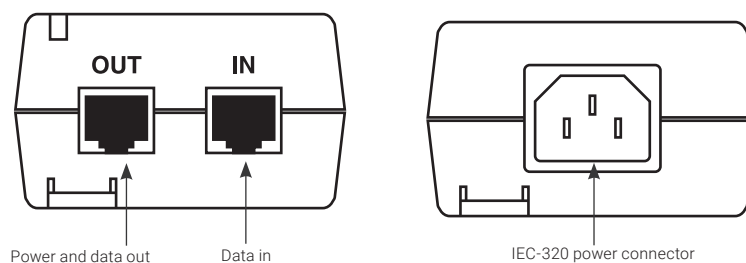

FIGURE 3-2. PORTS ON THE POWER INJECTOR
3. Using CAT5e or higher cable, connect the RJ-45 port on the injector labeled "IN" to your network switch. See Figures 3-2 and 3-3.
4. Connect the RJ-45 port labeled "OUT" on the injector over Ethernet cable to the powered device. See Figures 3-2 and 3-3.